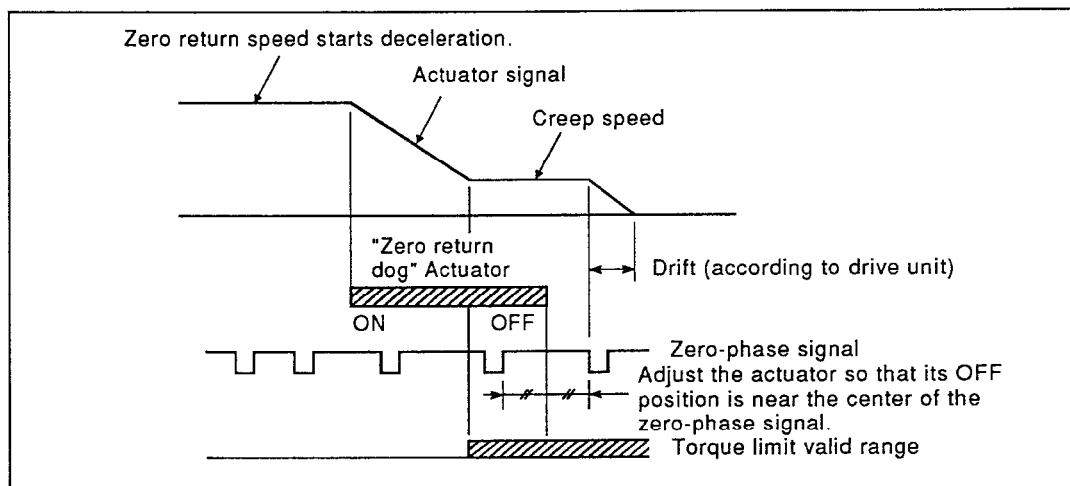

Fig. 3.14 Zero return and Creep Speeds
- (3) Zero return address
- (4) Zero return speed
- Sets the zero return speed. (Refer to Fig. 3.14.)
- (5) Creep speed
- The creep speed is low-speed until stopped after decelerating from the zero return speed by the zero return point dog being ON during zero return. (Refer to Fig. 3.14.)